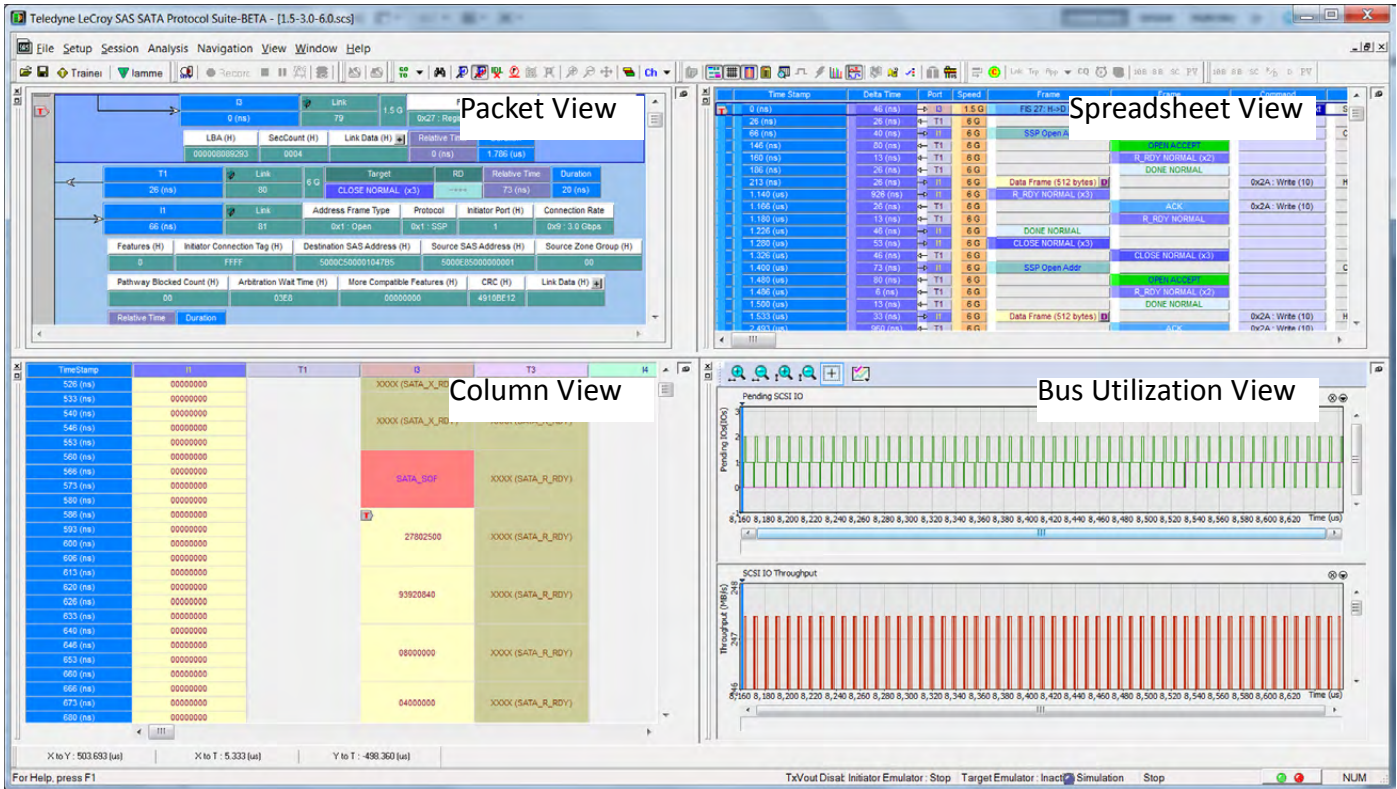

Figure 3.22: Workspace with Four Views (Packet, Spreadsheet, Column, Bus Utilization)
2. Select the other views you'd like to see. (In this case we have chosen Packet, Spreadsheet, Column and Bus Utilization. See Figure 3.22).